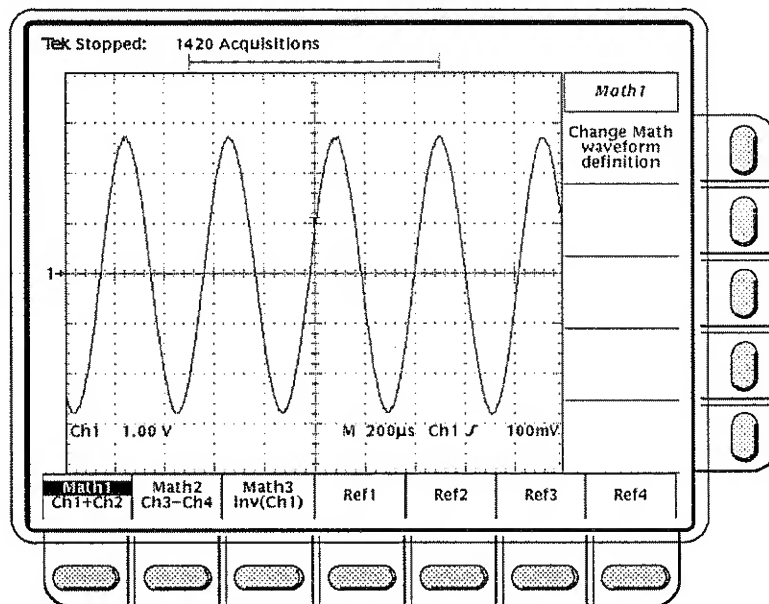

Figure 3-70: More Menu
- ☐ **Step 1:** Press the **MORE** button to bring up the More menu (Figure 3-70). The More menu allows you to display, define and manipulate three math functions.
- ☐ **Step 2:** Press the main menu key corresponding to the math waveform you wish to display or change. You can choose **Math1**, **Math2**, or **Math3** (Figure 3-70).
- ☐ **Step 3:** Press the side menu **Change Math waveform definition** key to bring up a second set of main and side menus to alter the present math waveform definition (Figure 3-70).